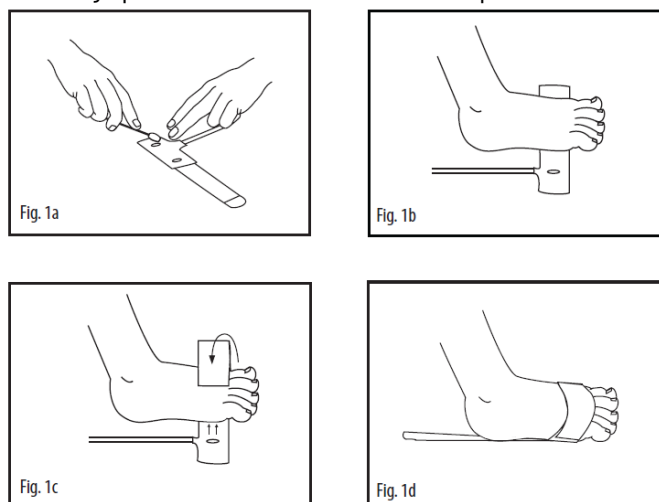

Fig. 22 LNCS Sensor Application for Preterms and Neonates
- 2 See Fig. 1a in Fig. 22: For fragile skin, the stickiness of the medical grade adhesive can be diminished or eliminated by daubing the adhesive areas with a cotton ball or with gauze.
- 3 See Fig. 1b in Fig. 22: Direct the sensor cable so that it either points away from the patient or runs along the bottom of the foot. Apply the detector onto the fleshy part of the lateral aspect of the sole of the foot aligned with the fourth toe. Alternatively, the detector may be applied to the top of the foot (not shown).
- 4 See Fig. 1c in Fig. 22: Wrap the adhesive/foam wrap around the foot and ensure that the emitter window (red star) aligns directly opposite of the detector. Be careful to maintain proper alignment of the detector and emitter windows while attaching adhesive/foam wrap to secure the sensor.
- 5 See Fig. 1d in Fig. 22: Verify correct positioning and reposition if necessary.